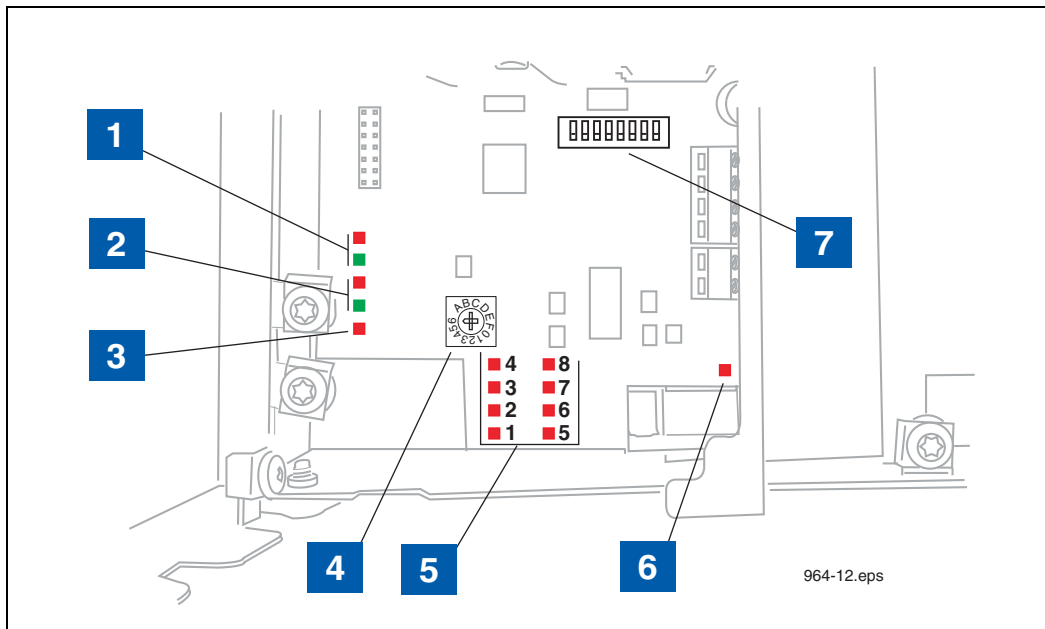

Figure 12. TLS RF Diagnostic LEDs And Switch Locations
2. In this example, device output 1 is a CCVP transmitter - Observe polarity. Note: each time a transmission is received from this device, LED 1 (see item 5 in Figure 12) will flash.
3. In this example, device output 2 is a Flow Meter - Observe polarity. Note: each time a transmission is received from this device, LED 2 (see item 5 in Figure 12) will flash.
Figure 12 locates the diagnostic lights and setup switches in the TLS RF.
LEGEND FOR NUMBERED BOXES IN Figure 12